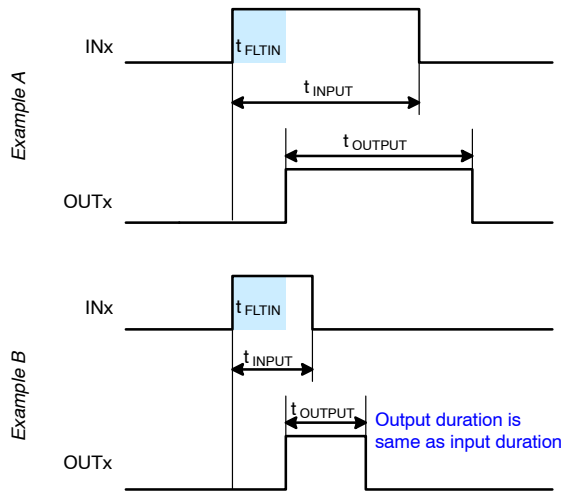

**Figure 43. RCIN and Fault-Clear Waveform Definition**
Figure 43 shows the waveform definitions of RCIN,  $\overline{FO}$ , and the low-side driver; which uses a soft turn-off method when an under-voltage condition of the low-side gate driver supply voltage ( $V_{DD}$ ) or the current-sense pin (CS) recognizes a fault. If a fault condition occurs, the  $\overline{FO}$  Pin is internally pulled to COM and all outputs (HO1, 2, 3 and LO1, 2, 3) of the gate driver are turned off. Low-side outputs decline linearly by the internal sink current source ( $I_{SOFT} = 40 \text{ mA}$ ) for soft turn-off, as shown in Figure 43.